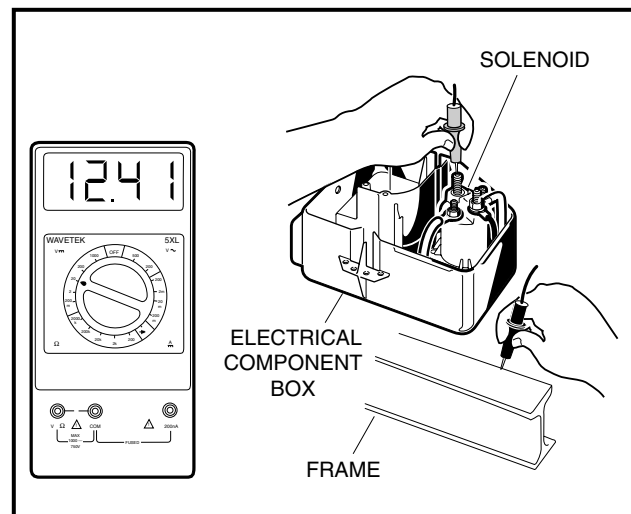

Figure 11-32 Test Solenoid Ground
9. With the Forward/Reverse handle still in NEUTRAL, set the multimeter to 20 volts DC and place the red (+) probe on the large post that does *not* have wires connected to it. Place the black (-) probe on the vehicle frame. Turn key switch to the START position and listen for the solenoid click. While holding the key in the START position, the meter should read full battery voltage. If the reading is incorrect, replace the solenoid (**Figure 11-32, Page 11-29**).